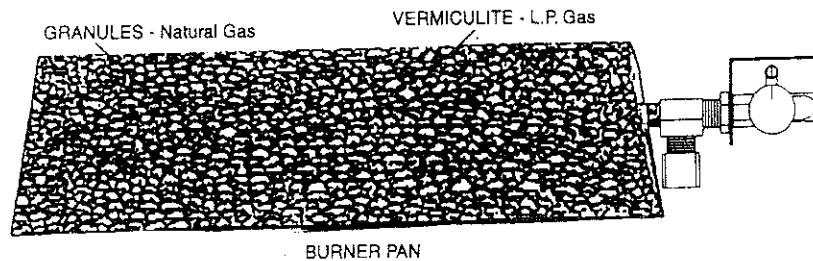

Figure 13
- 1A. **NATURAL GAS INSTALLATION:** Spread granules (black) over the installed burner pan. The bottom two burners should be covered leaving the top burner, which is above the grate, exposed. Granules should be sloped to the same angle as the burner pan filling the entire pan. (See Figure 13.)
- 1B. **L.P. GAS INSTALLATION:** Spread vermiculite (white) over the installed burner pan. The bottom two burners should be covered leaving the top burner, which is above the grate, exposed. Vermiculite should be sloped to the same angle as the burner pan filling the entire pan. (See Figure 13.)